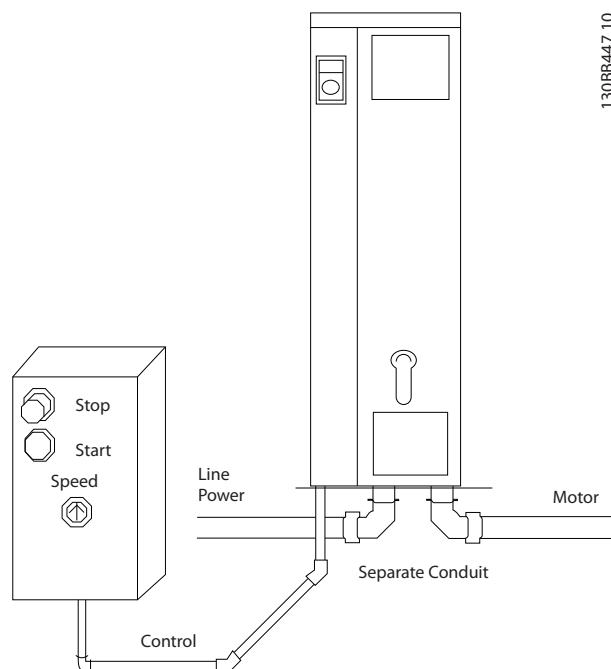

Figure 2.6 Proper Electrical Installation Using Conduit
- Because the motor wiring carries high frequency current, it is important that wiring for line power, motor power, and control is run separately. Use metallic conduit or separated shielded wire. Failure to isolate power, motor, and control wiring could result in less than optimum equipment performance. See *Figure 2.6*.